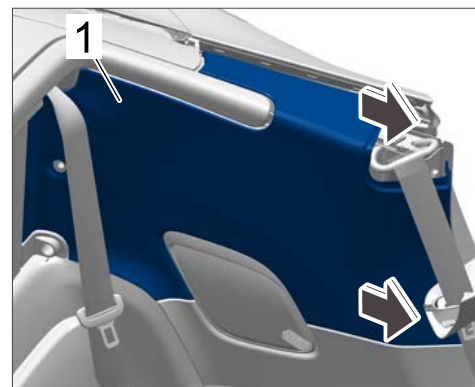

Figure 7
- 4.5 Unclip side trim panel ⇒ *Figure 7-1*- at the top and pull it forward ⇒ *Figure 7-arrow*- out of the guide.